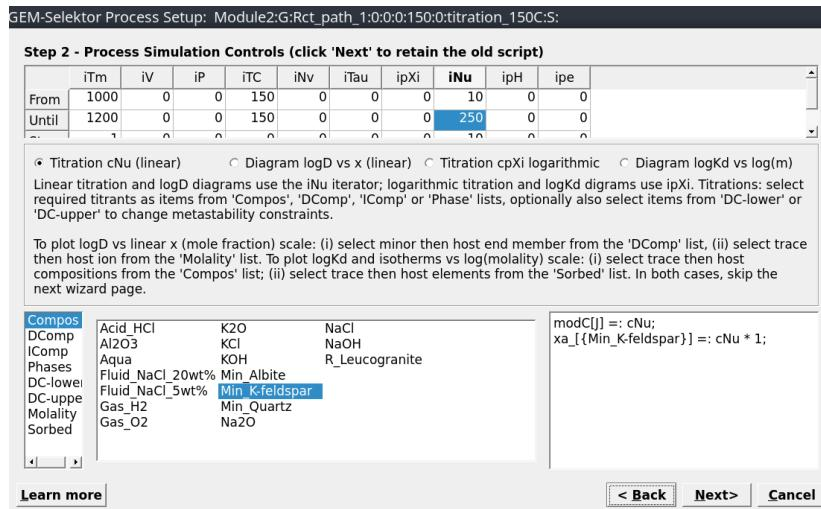

Figure 2.8: Set the parameters for the ‘Process’ simulation; Set ‘iTm’ 1000, 1200, 1; Set ‘iP’ to 0 all fields; Set ‘iNu’ 10, 250, 10.
- In the next window, choose a model (**titration cNu linear**), a mineral (**Compos**, **Min_K-feldspar**) and select the temperature (150 °C), pressure (0 for water vapor saturation P) and amount of mineral to be added (**iNu**: 10-250 g in 10 g steps) as shown in Figure 2.8. The parameters are: set **iTm** 1000, 1200, 1; set **iP** to 0 all fields; set **iNu** 10, 250, 10, corresponding to start, end, and step values.